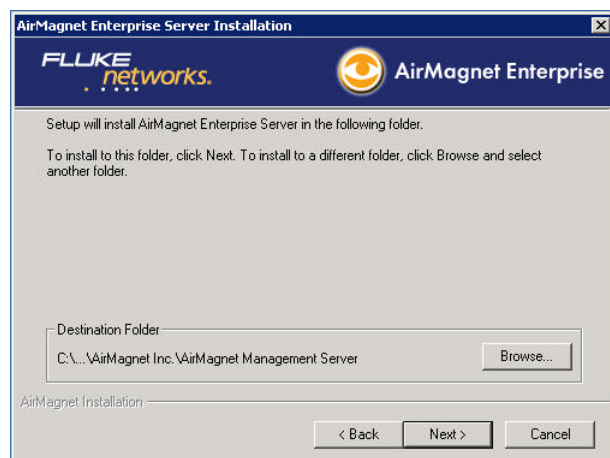

Figure 2-4: Setting server installation destination
- 8) Click **OK**. The AirMagnet Enterprise Server Installation screen appears. To accept the default destination folder for your AirMagnet Enterprise Server, click **Next**. Otherwise, browse for a location of your choice and then click **Next**. See Figure 2-4.